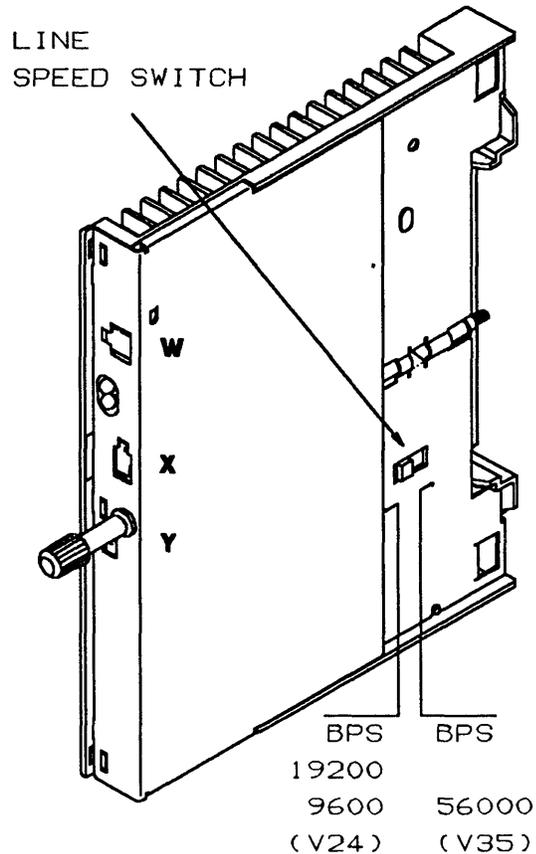

Figure 4-55. LIC 6
1. If you deal with a LIC type 6 (refer to Figure 4-55), note the position of the line speed switch, then set the line speed switch of the new LIC accordingly.